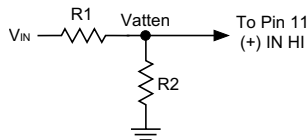

Figure 1. Resistor Divider
The resistor divider shown in Figure 1 easily accomplishes the task of reducing the raw input signal ( $V_{IN}$ ) down to a level which a  $\pm 2V$ -input meter (DMS-30PC-1-RS for example) can accept. However, the attenuated signal ( $V_{atten}$ ) at pin 11 (+) INPUT HI still has a dc offset which has to be nulled. The following procedure can be used with many other input-voltage/display-reading combinations. Two completely worked-out examples will be provided.
The DMS-EB Application Board for DMS-30 Series meters has locations for installing the required user-supplied components shown in Figures 1 and 2. For large OEM requirements, DATEL can provide a completely wired and tested meter to suit your particular requirements. Please consult our sales or marketing engineers for more information.
Step 3. Find the input attenuator ratio  $r$ , and then use  $r$  to find  $R2$  (see Figure 1):